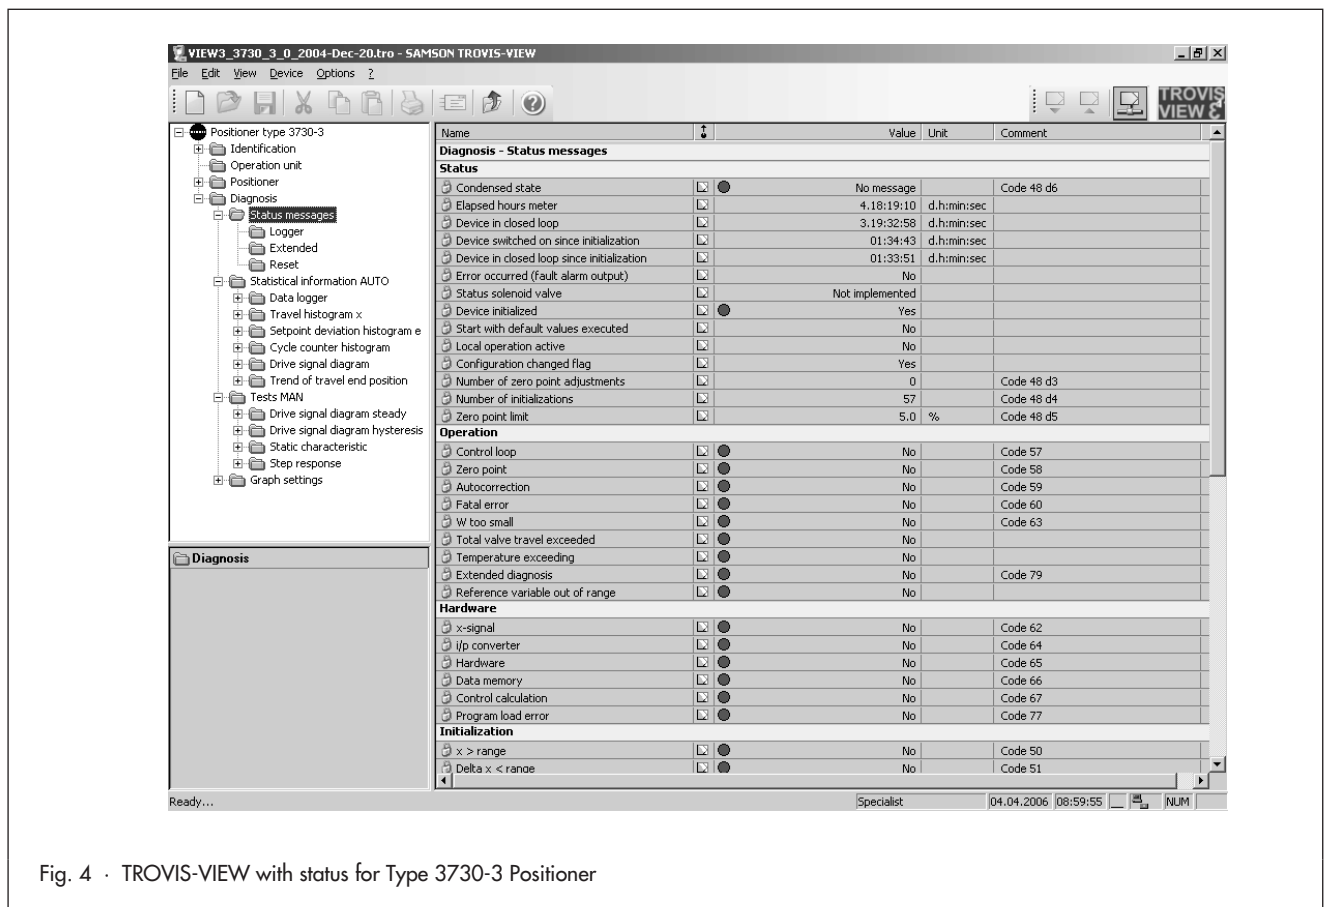

Fig. 4 · TROVIS-VIEW with status for Type 3730-3 Positioner
1.2.2 Important operating parameters (Fig. 4)